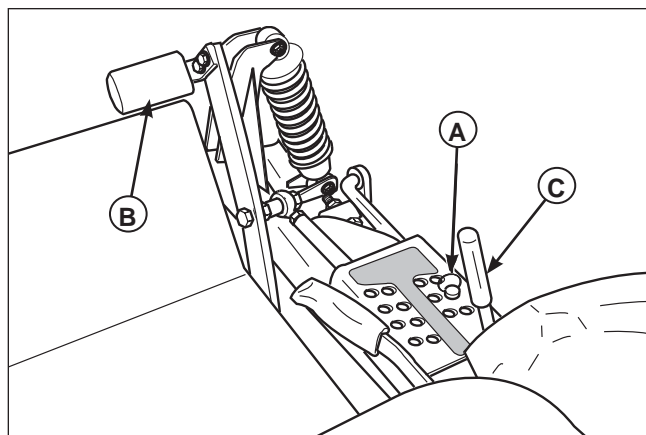

Figure 37. Cutting Height Adjustment
The cutting height adjustment pin (A, Figure 37) controls the mower cutting height. The cutting height is adjustable between 1-1/2" (3,8cm) and 5" (12,7cm) in 1/4" (0,64cm) increments.
1. Depress the deck lift foot pedal (B, Figure 37) until it locks into the 5" (12,7 cm) position.
3. Depress the deck lift foot pedal then push the lock lever (C) towards the right to release the lock.